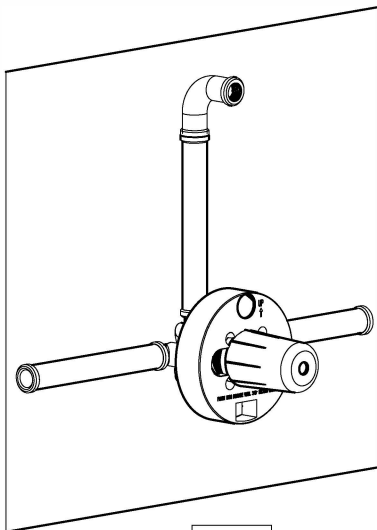

Fig .1
- 1 Recommended component locations:(see Fig. 1)